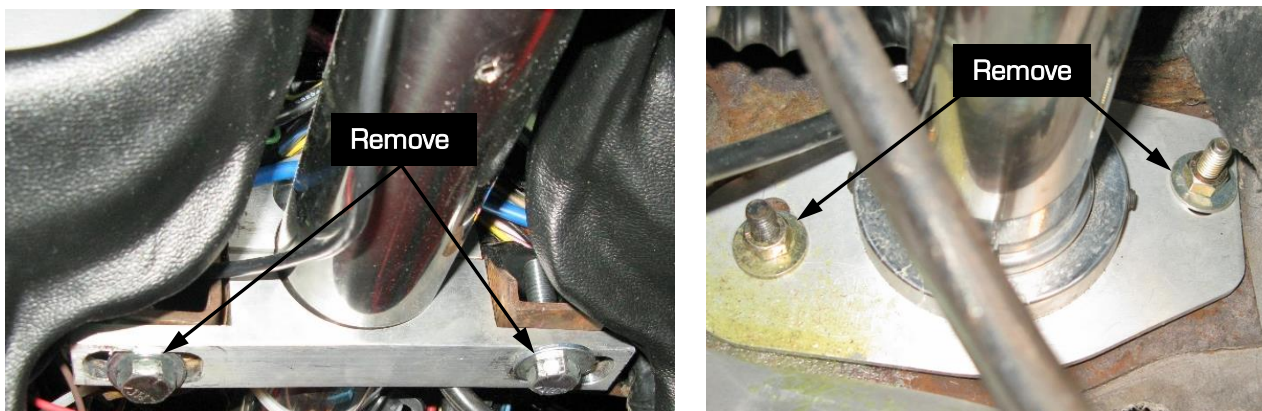

Figure 20 - Remove Steering Column Hardware
22. Remove the 2 bolts holding the steering column to the support brace, Remove the 2 carriage bolts from the lower part of the column (Figure 20). **NOTE:** The steering column used in the pictures below is from an aftermarket column.